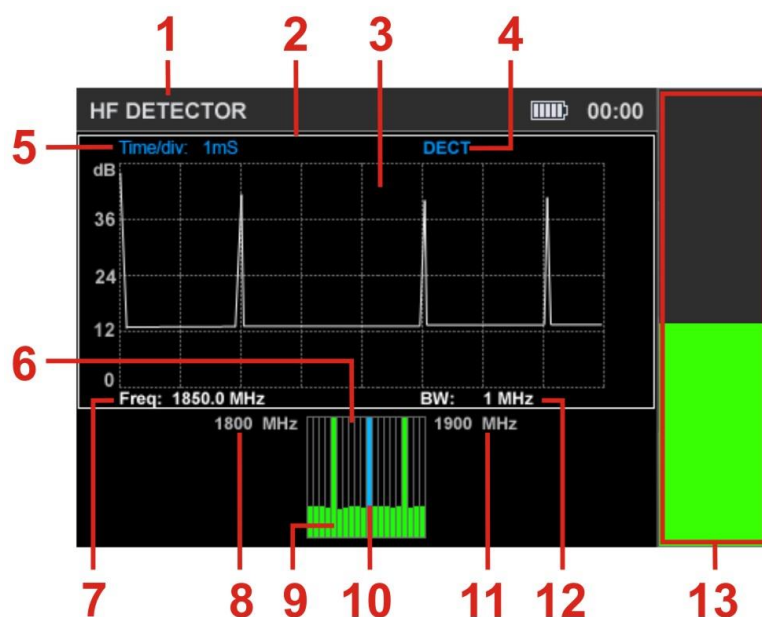

Fig.19
Upon activation, the screen will look as shown in fig.19.
In fig.19:
- Signal level bar (fig.19, 13)
- OSCILLOSCOPE (fig.19, 3)
- SPECTRUM ANALYZER (fig.19, 6)
The signal level bar shows signal level at the current frequency (fig.19, 7) as determined by the position of the SPECTRUM ANALYZER marker (fig.19, 10). The oscillogram (fig.19, 3) and the spectrogram (fig.19, 6) are displayed in two other windows. Only one window can be active at a time, highlighted by a white frame (fig.19, 2). To switch between OSCILLOSCOPE and SPECTRUM ANALYZER windows, use the  and  keys.